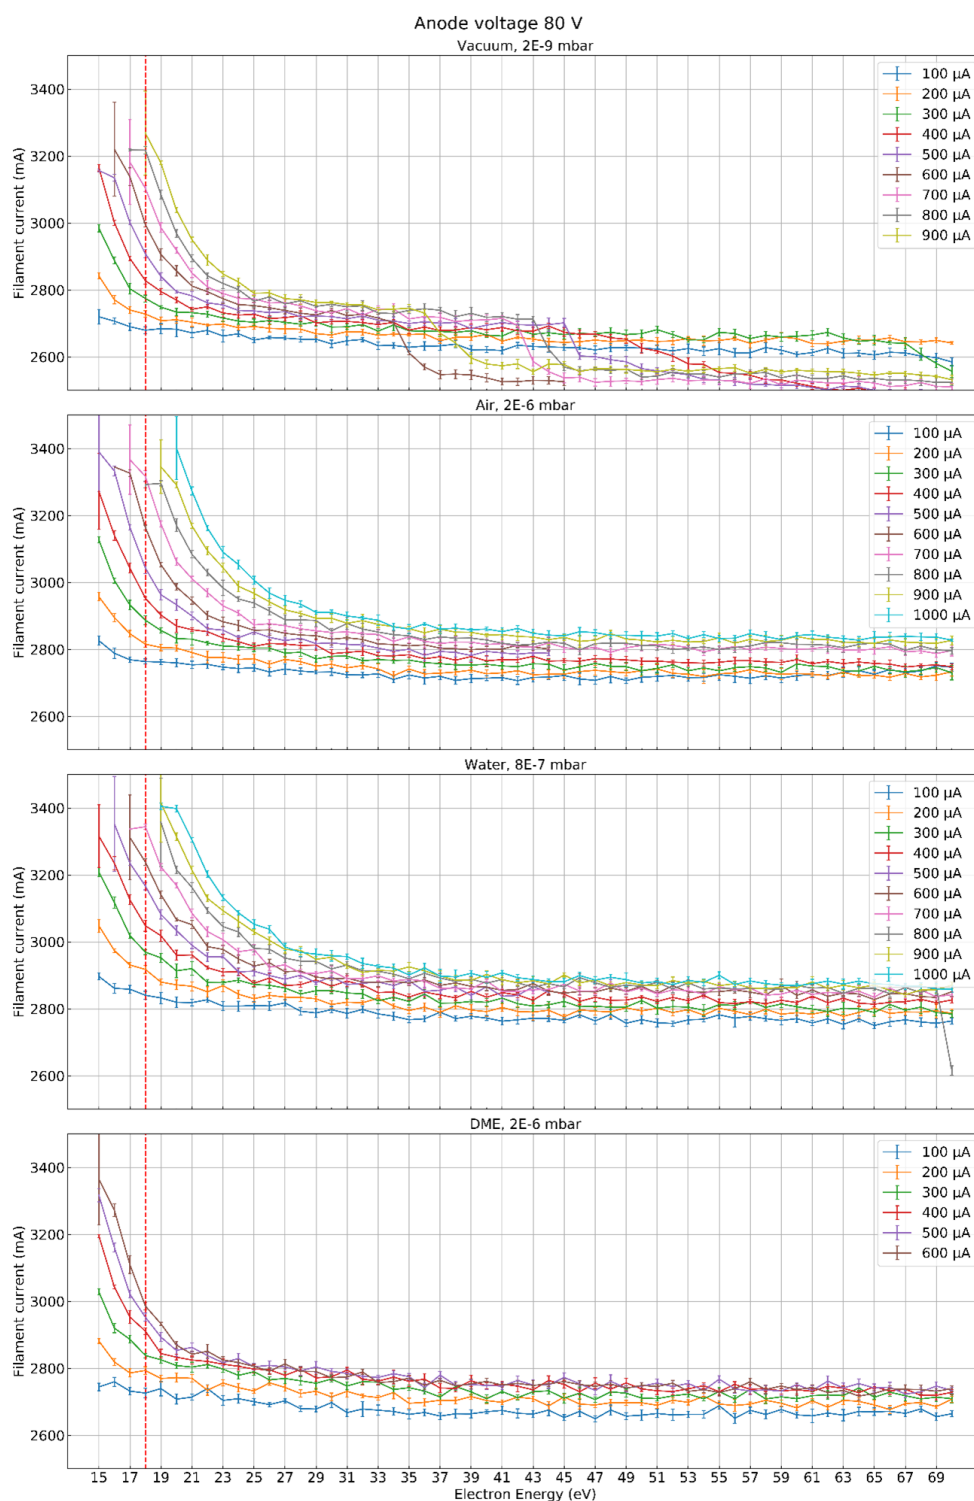

Figure 7: Same data as in Figure 6, regrouped to highlight atmosphere dependency.
In Figure 6 and Figure 7, filament current vs electron energy curves are shown for different emission currents and different atmospheres. The data reported in the two figures is the same, grouped to highlight emission energy dependency (Figure 6) and atmosphere dependency (Figure 7), respectively. Data was acquired with the EC-MS using an anode voltage of 80 V. Vacuum curves were acquired with V5 closed. Air curves were measured with the mass spectrometer open to the membrane chip, and the chip exposed to air. Water and dimethoxyethane (DME) curves were measured coupling the EC-cell onto the chip and injecting each liquid in the cell, respectively.
There is no way of reading the filament current in PV MassSpec, so the user must refer to Figure 6 and Figure 7 in order to select a safe operation setting. The filament must be operated below 3.5 A, otherwise it may suffer catastrophic failure. As a rule of thumb, the filament should be operated at a setting where the filament current vs electron energy curve is not steep. Staying below 3.2 A is advised. To select an appropriate setting follow these steps:
- (ii) Locate the chosen electron energy in Figure 6 or Figure 7